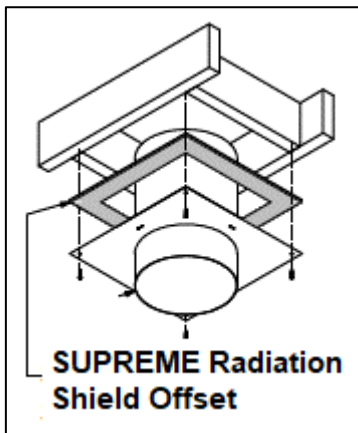

Figure 2-10: SUPREME Radiation Shield Offset
The SUPREME Radiation Shield Offset is a standard component for the Elegance 42 fireplace (Figure 2-10). Prior to installing the chimney manufacturer's radiation shield, the SUPREME Radiation Shield Offset is fastened below the chimney opening within the chase, with the flanges along the component providing a  $\frac{1}{2}$ " offset.
2. For an installation with the chimney running through the ceiling, install the SUPREME Radiation Shield Offset below the chimney opening prior to installing the radiation shield (refer to Figures 2-10 and 3-7).